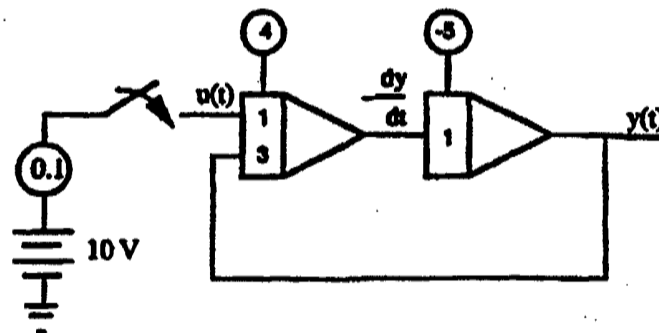
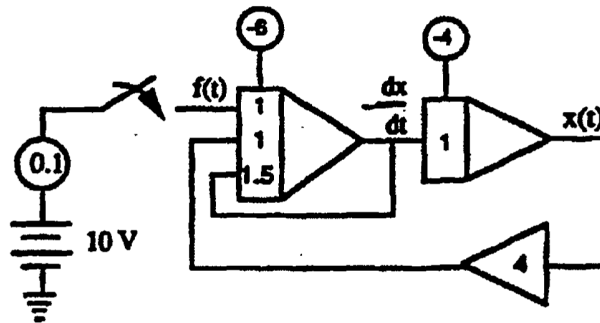

Fig. 9.
Fig. 10.
3. Form all interconnections necessary to complete the diagram. Figure 9 gives the complete computer block diagram after all necessary connections have been made.
4. It is possible to simplify the diagram in Fig. 9 in order to obtain one with the lowest number of components. The important thing to keep in mind here is that if all the loop-gain products are not changed, the same transfer function from the input to the output will result. (This can be proven by Mason's rule) Figure 10 shows the simplified block diagram and the input source which supplies the unit step input.
Following the method outlined above, the computer diagram show in Figure 10 may be obtained.